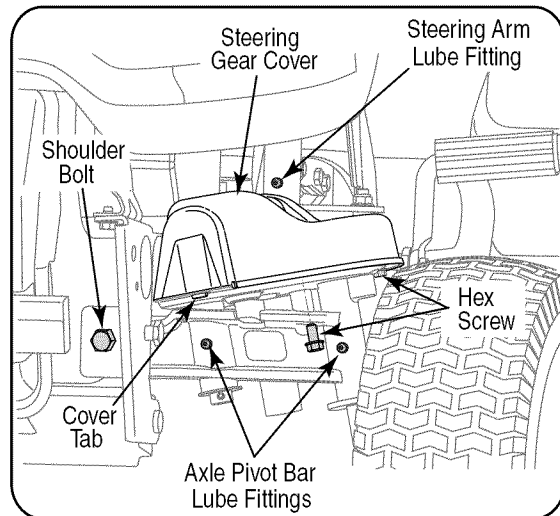

Figure 6-2
- Apply grease through the lube fitting on the RH and LH steering arms which are located at rearward end of the two steering drag links. See Figure 6-2.
- Locate the lube fittings for the pivot shaft and axle on the front of one end of the axle pivot bar. Apply grease through the two lube fittings, then repeat to lubricate the other end of the pivot bar. See Figure 6-2.
- From beneath the cover base plate on each end of the pivot bar, remove the three hex screws securing the steering gear cover. Remove the covers and clean the gears. It is not necessary to lubricate the gears. Refer to Figure 6-2.